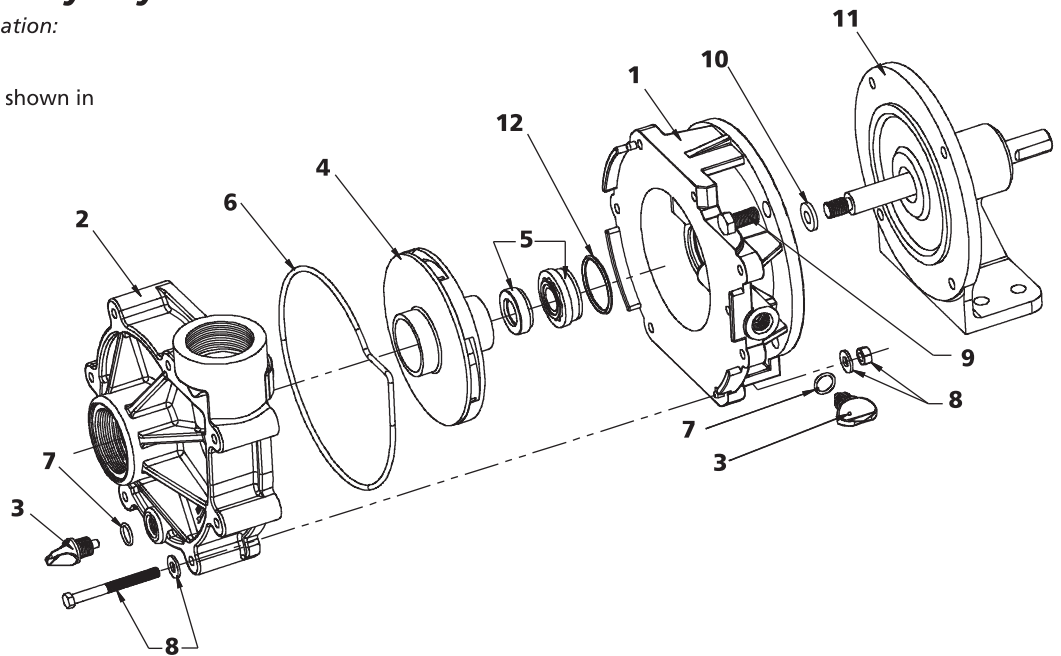

Figure 8– Repair Parts Illustration
- f. Use a wooden dowel to push out the mechanical seal (part of Ref. No. 5) from the adapter (Ref. No. 1) (See Figure 8). Do not dig the seal out from the front.